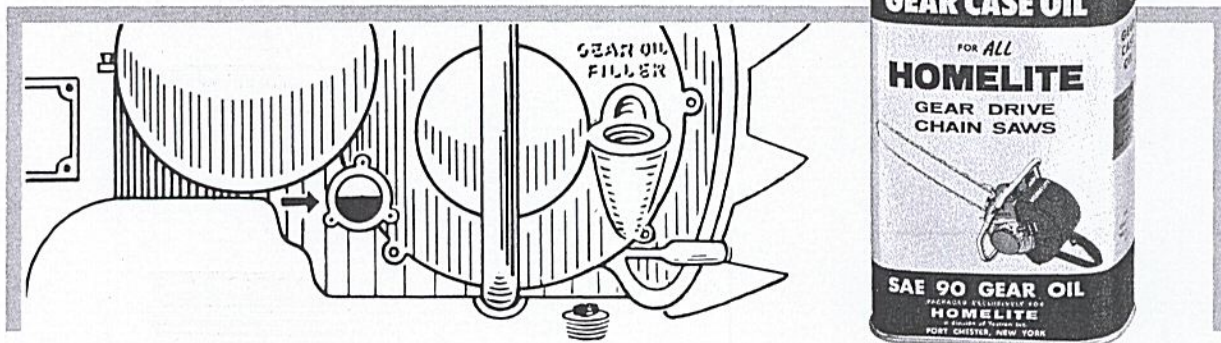

Figure 3-3 Fill to Level of Arrow with Homelite Gear Oil
3. Place the saw on a level surface, so you will get an accurate reading of the oil level, as seen through the inspection window. (See Figure 3-3.)